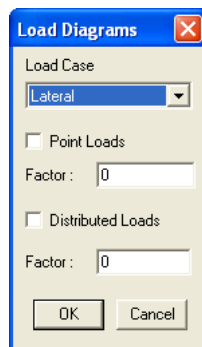

Figure 3-49 Load Diagrams dialog box
- From the **Show** menu, select **Load Diagrams**. The dialog box of Figure 3-49 appears.